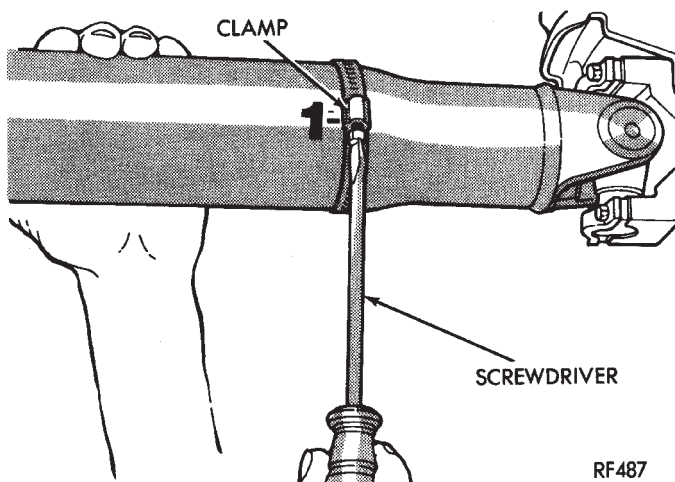

Fig. 6 Clamp Screw At Position 1
- (1) Raise the vehicle.
- (2) Clean all the foreign material from the propeller shaft and the universal joints.
- (3) Inspect the propeller shaft for missing balance weights, broken welds, and bent areas. **If the propeller shaft is bent, it must be replaced.**
(4) Inspect the universal joints to ensure that they are not worn, are properly installed, and are correctly aligned with the shaft.
(5) Check the universal joint clamp screws torque.
(6) Remove the wheels and tires. Install the wheel lug nuts to retain the brake drums or rotors.
(7) Mark and number the shaft six inches from the yoke end at four positions 90° apart.
(8) Run and accelerate the vehicle until vibration occurs. Note the intensity and speed the vibration occurred. Stop the engine.
(9) Install a screw clamp at position 1 (Fig. 6).
(10) Start the engine and re-check for vibration. If there is little or no change in vibration, move the